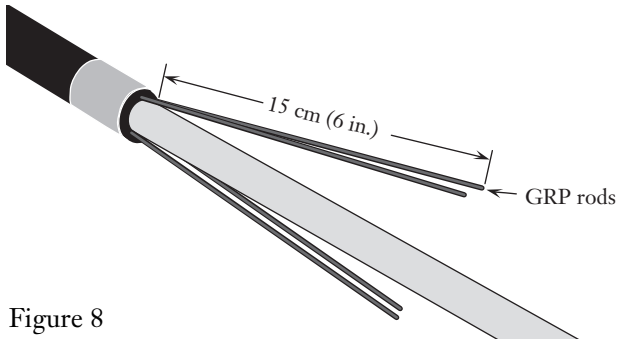

Figure 8
4.10 Using side cutters, cut the four (4) GRP rods approximately 15 cm (6 in.) from the tape wrap (Figure 8). **ALWAYS WEAR SAFETY GLASSES WHEN CUTTING THE GRP RODS.**